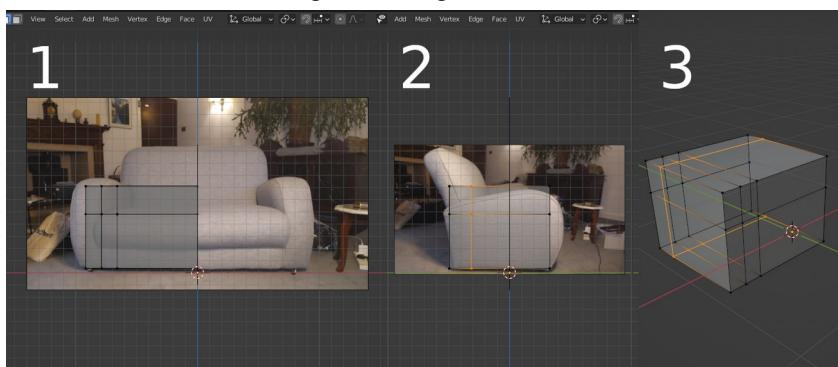
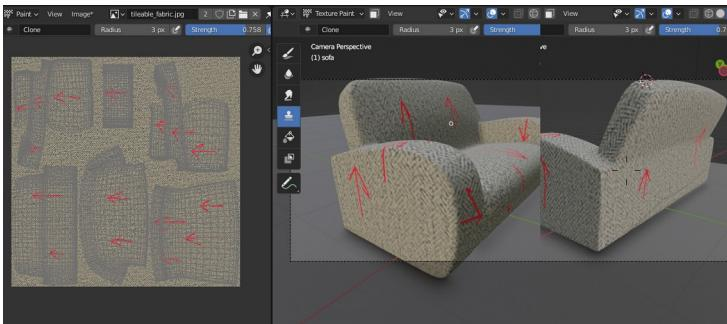

Figure 8-8 Start cube with Edge loops inserted
Figure 8-12 Orientation of Panels
5. Do the rough shaping of the cube. You need to divide it up enough to extrude the back up and the seat down. It will be easier at this stage to turn off the visibility of the subdivision modifier in Edit mode by toggling off the second button. With the cube selected switch to Edit mode and move the vertices so four are on the mirror plane and the overall size matches half the sofa up to the height of the top of the arms. Delete the face on the mirror plane. Figure 8-8 shows the size I used.
6. Rather than use the subdivide function you've used previously you will add loop cuts where you need them. The whole modeling exercise will require lots of edge loops so I suggest you use the shortcuts **CTRL-R** to add, **ALT-LMB** to select and **G** twice to slide them. In the front orthographic view, add an edge loop and slide it to the position of the inside of the arm. Because of the perspective on my image, this is a little hard to estimate but you can see the overall width of the arm. The vertical side of the back is about in the middle of the arm, so add a second edge loop mid way between each side of the arm. You can see the position on Figure 8-8 stage 1.
8. You need a final edge inserting to allow the back to be extruded, so switch to orthographic view from the side and add a loop there, see Figure 8-8 stage 2 and 3.
14. To scale an island such as the bottom of the sofa and to be able to move all the islands around to optimize the space, there is a useful fourth selection mode, *island*, which has an icon with a solid and outline rectangle, visible at the top of Figure 8-8. To select the island for the bottom of the sofa, in the 3D Viewport deselect everything then select one face on the bottom. In the UV Editor switch to island selection mode and select the single face that you can see there. Now, back in the 3D Viewport, select all the faces so you can see them in the UV Editor. Click again on the single face from the bottom, which is still selected, and you will select the whole island.
In Figure 8-8 stage 2 you can see my re-arranged UV layout and there are a few things worth noting. Not only have I have shrunk the bottom, I have also shrunk the back slightly, as that will also be less carefully scrutinized than the rest of the sofa. More importantly, the layout for the sofa arms look to point in opposite directions, which might be a problem if the fabric was a print, say, where the design needed to be the right way up. However if you look carefully you will see that the UV unwrapping has oriented all the islands so that the bottom of each area of fabric is on the right of the map. If you use an image for the material texture covered in arrows pointing from right to left, on the 3D object, they would go upwards in most locations, see Figure 8-12.
The fabric on my sofa has no obvious directionality so orienting the panels is not an issue, however, as you can see in Figure 8-12, the scale is wrong. The square of fabric should be about the same area as the outside of one of the arms of the sofa.